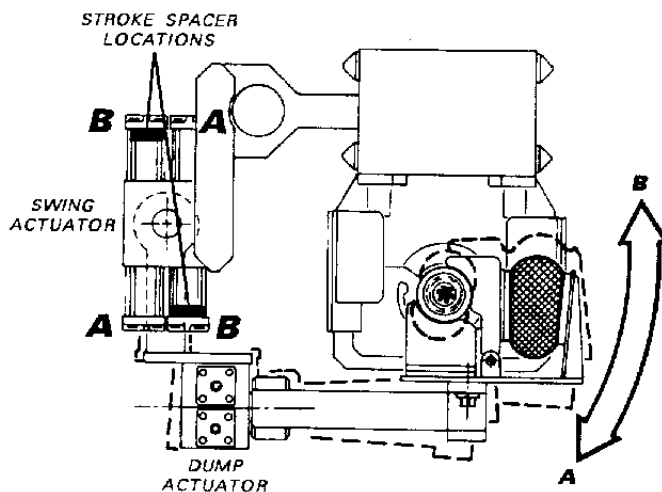

FIGURE 2.
Adjustment of the pipe arm will require the use of a 1/2" Allen wrench and one piece of drill pipe. Ensure the proper location of the stroke spacers as shown in figure 2.
3. Remove hydraulic lines and fittings on the SWING actuator to expose stroke adjusters inside all ports **A** and **B**. See figure 2.